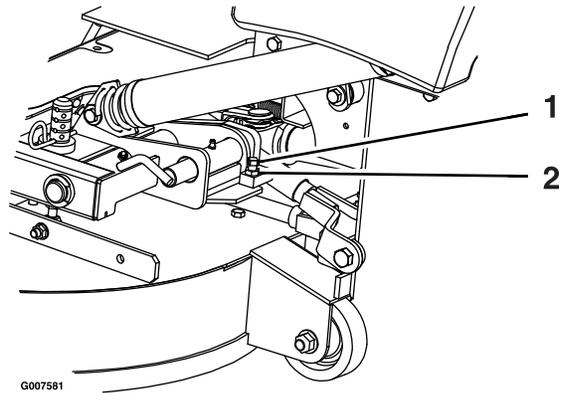

Figure 67
2. Loosen the jam nut and turn the stop screw clockwise until the locking pin is tight and cannot be rotated by hand (Figure 67).